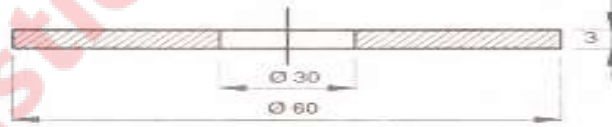

Figure-1
- (c) Calculate the tonnage capacity of press to cut a M.S. Washer shown below in Figure-1. (Assume $F_s = 350 \text{ N/mm}^2$) 04